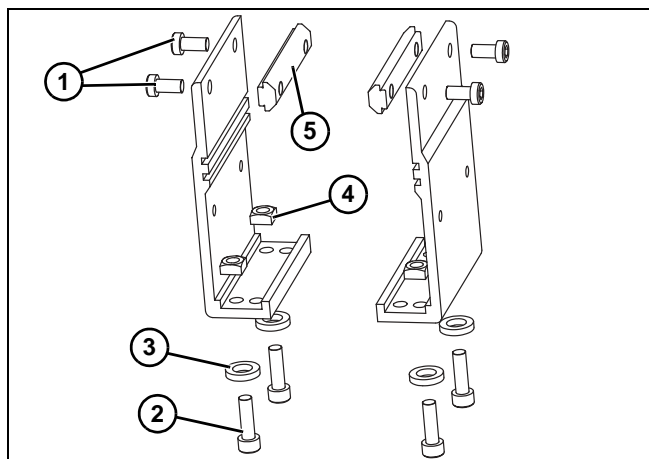
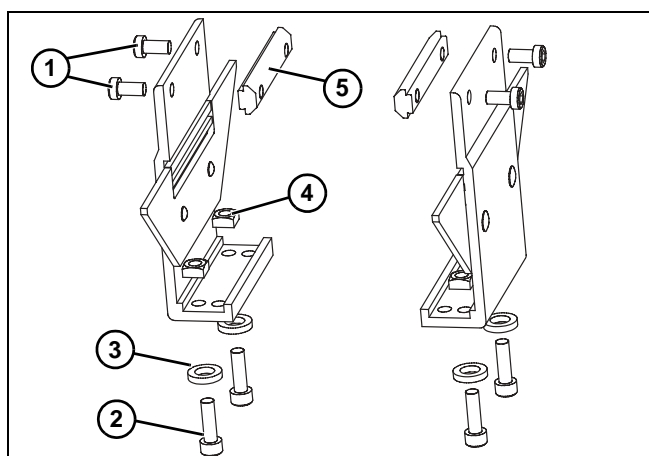
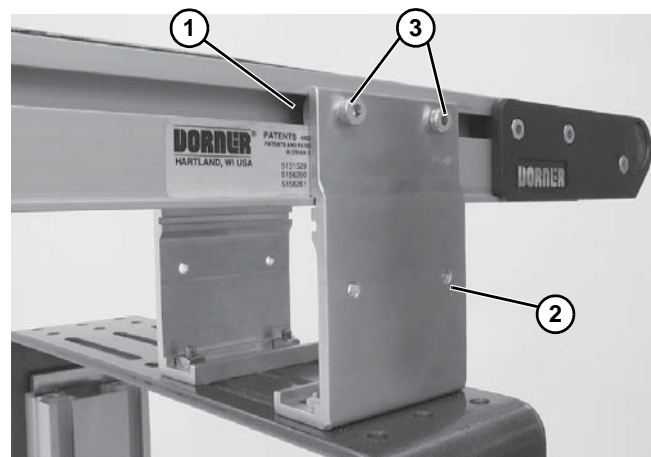

Figure 14
Figure 15
Figure 16
1. Locate brackets. Exploded views shown in Figure 14 & Figure 15.
2. Remove screws (Figure 14, item 1 & 2) & (Figure 15, item 1 & 2), washers (Figure 14, item 3) & (Figure 15, item 3), nuts (Figure 14, item 4) & (Figure 15, item 4), and T-bars (Figure 14, item 5) & (Figure 15, item 5) from brackets.
3. Insert T-bars (Figure 14, item 5) & (Figure 15, item 5) into conveyor side slots (Figure 16, item 1). Fasten brackets (Figure 16, item 2) to conveyor with mounting screws (Figure 16, item 3).
4. Fasten brackets to support stand with mounting screws (Figure 14, item 2), washers (Figure 14, item 3) and nuts (Figure 14, item 4).